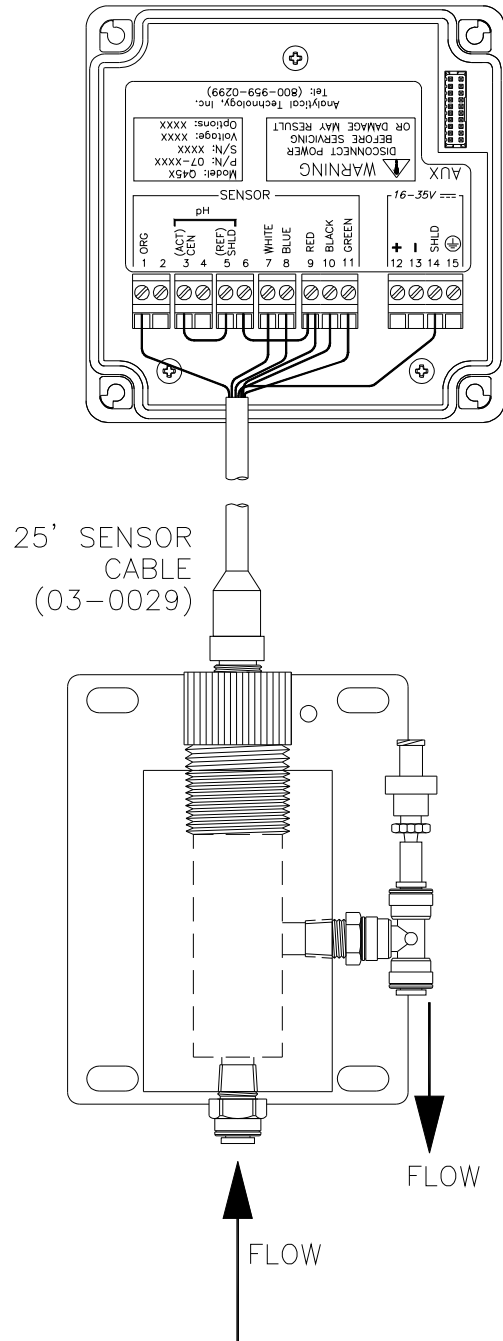

Figure 8 - Loop-Power Connection
1. Use wiring practices that conform to all national, state and local electrical codes. For proper safety as well as stable measuring performance, it is important that the earth ground connection be made to a solid ground point from terminal 12 (Figure 8 - Loop-Power Connection 8).
In the two-wire configuration, a separate DC power supply must be used to power the instrument. The exact connection of this power supply is dependent on the control system into which the instrument will connect. See Figure 8 - Loop-Power Connection